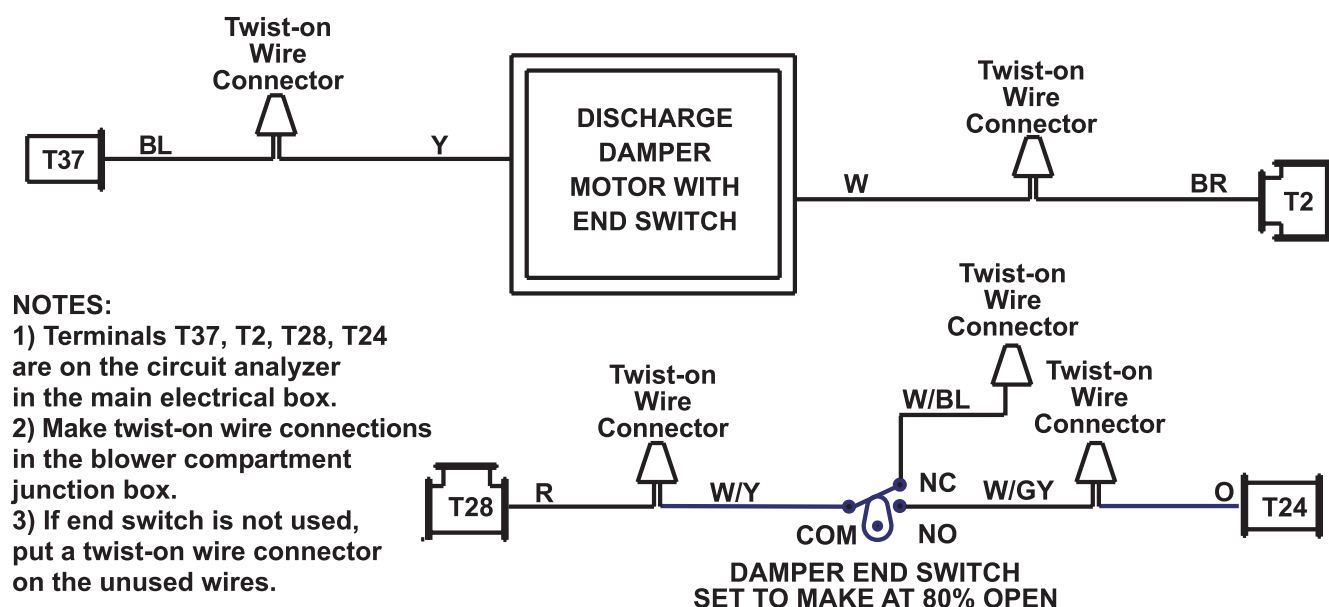

Figure 1. Model ADF Damper Motor Wire Diagram
10. Connect wires in junction box using twist-on wire connectors in accordance with Table 4 and Figure 1.